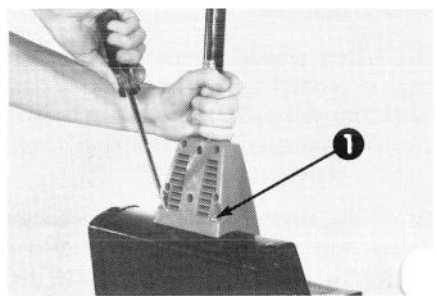

Figure 8
15. Insert a 1/4" x 1" screw in the threaded slot in the rear of the handle support (Fig. 8) and screw into place. Repeat with second screw.